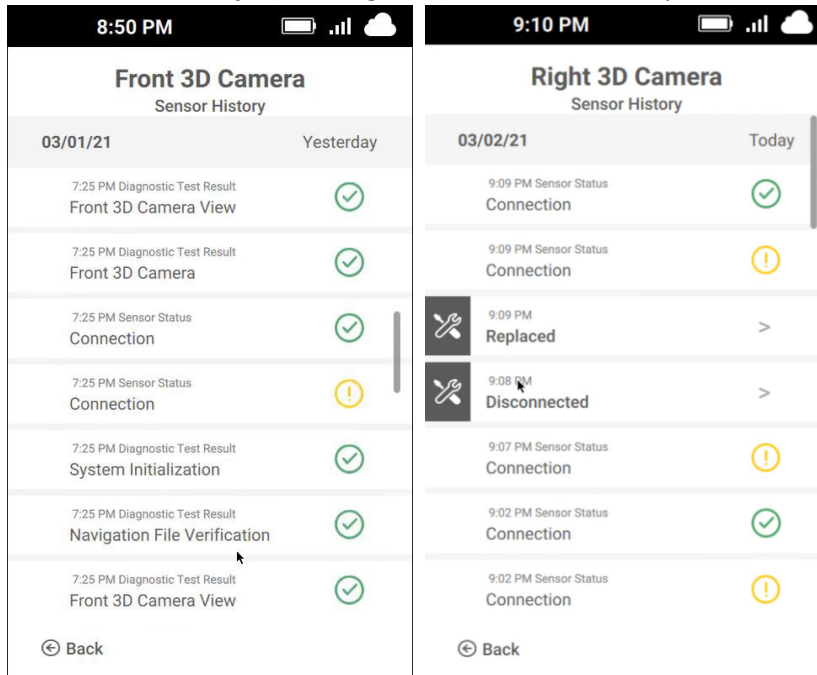

Figure 21: Sensor History
4. If LED is blinking or lit (See Figure 21) and the user is still seeing the side 3D Depth Sensor related issues reconnect/reseat the data cable that connects Up Trunk harness to 3D Sensor.